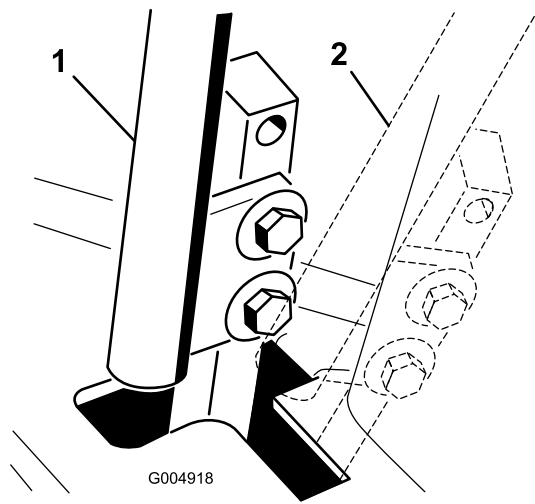

Figure 85
4. Move the control lever to the NEUTRAL position but **not locked** (Figure 85).
6. Check where the control lever is relative to notch in the console (Figure 85).